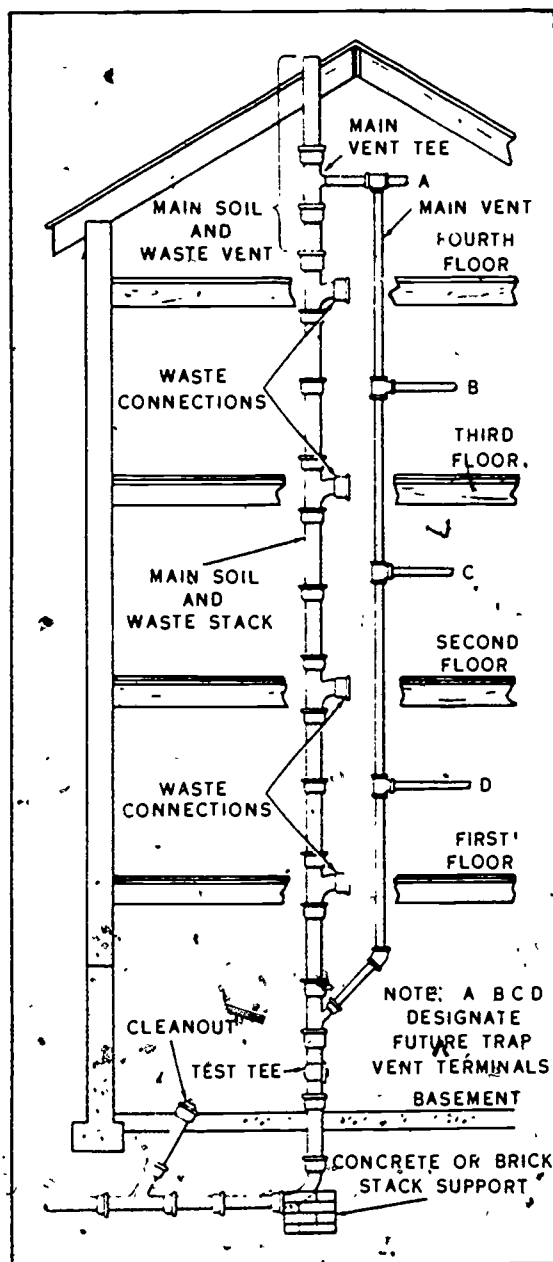

Figure 2-14 Soil and waste stack with main vent
**Soil and waste stack.** A soil and waste stack is a vertical pipe which receives the discharge from soil and waste branches. (See fig. 2-14.)
**Types of Vents.** There are several approved methods for venting a plumbing system. The type of vent that is used depends upon the design of the building, the number of fixtures, and the manner in which they are grouped. On small, single-story plumbing installations, where the fixtures are grouped and located so that the fixture traps attach directly to the fittings in the stack, no additional venting is necessary other than the stack vent. In buildings where the fixtures are located away from the stacks or in multistory buildings where fixtures are installed in the upper floors, a main vent, as shown in figure 2-14, may be necessary to insure adequate venting for the system. The types of vents, of which you may find one or more in a vent installation, are the main, individual, unit, circuit, loop, wet, and relief vents.
fixtures. It is an integral part of the vent system of a plumbing installation and is constructed in conjunction with the waste stack. The main vent connects full size at its base into the soil or waste stack through a Y-fitting at a point below the lowest fixture branch. It extends full size through and above the roof or to a point of connection with the stack vent above the highest fixture branch. The fitting for this connection is referred to as the main vent tee, which is also shown in figure 2-14. In most installations, the main vent is located within a few feet of the waste stack, but it may be offset as much as necessary where special problems exist. Notice the location of the waste connections in the main stack in figure 2-14 and also the future trap vent terminals, which are designated by A, B, C, and D and will be used for venting purposes only.